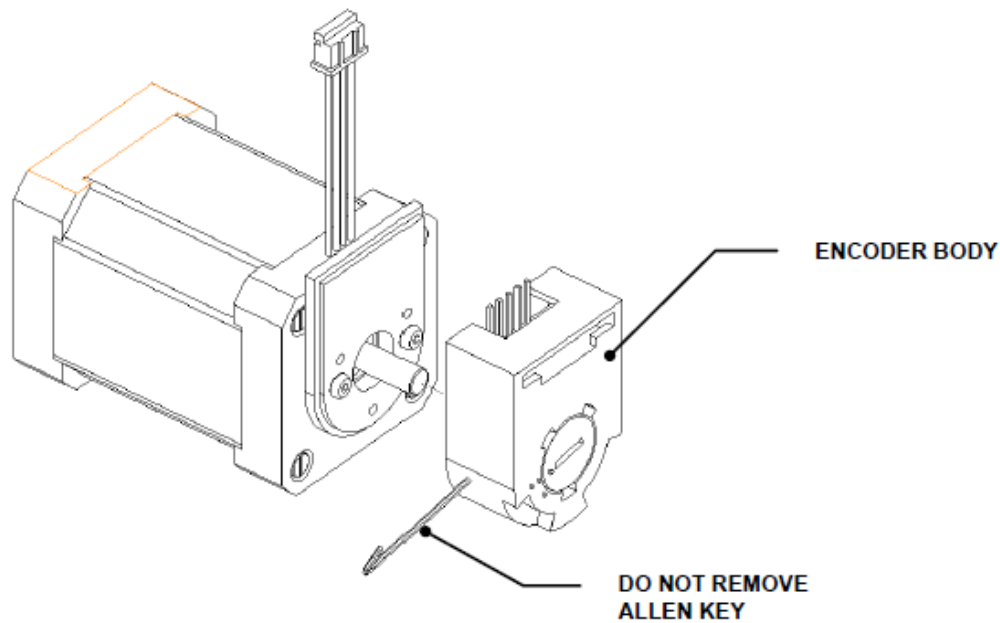

Figure Z-22: Installing the Encoder
1. Install the main part of the Encoder onto the Mounting Plate by snapping it in place (Figure Z-22).